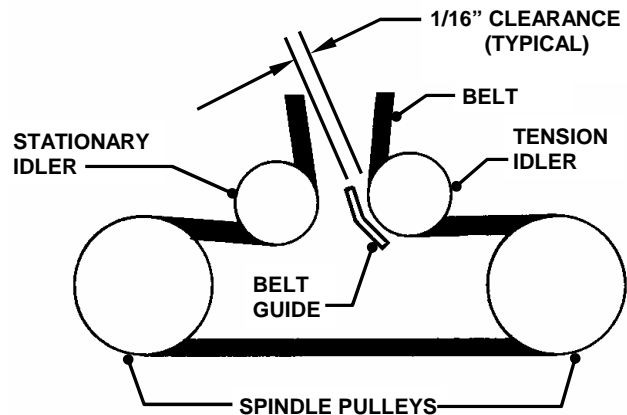

FIGURE 4.34
9. Adjust idler pulley belt guide if necessary to obtain 1/16" clearance between belt and belt guide. See Figure 4.34.